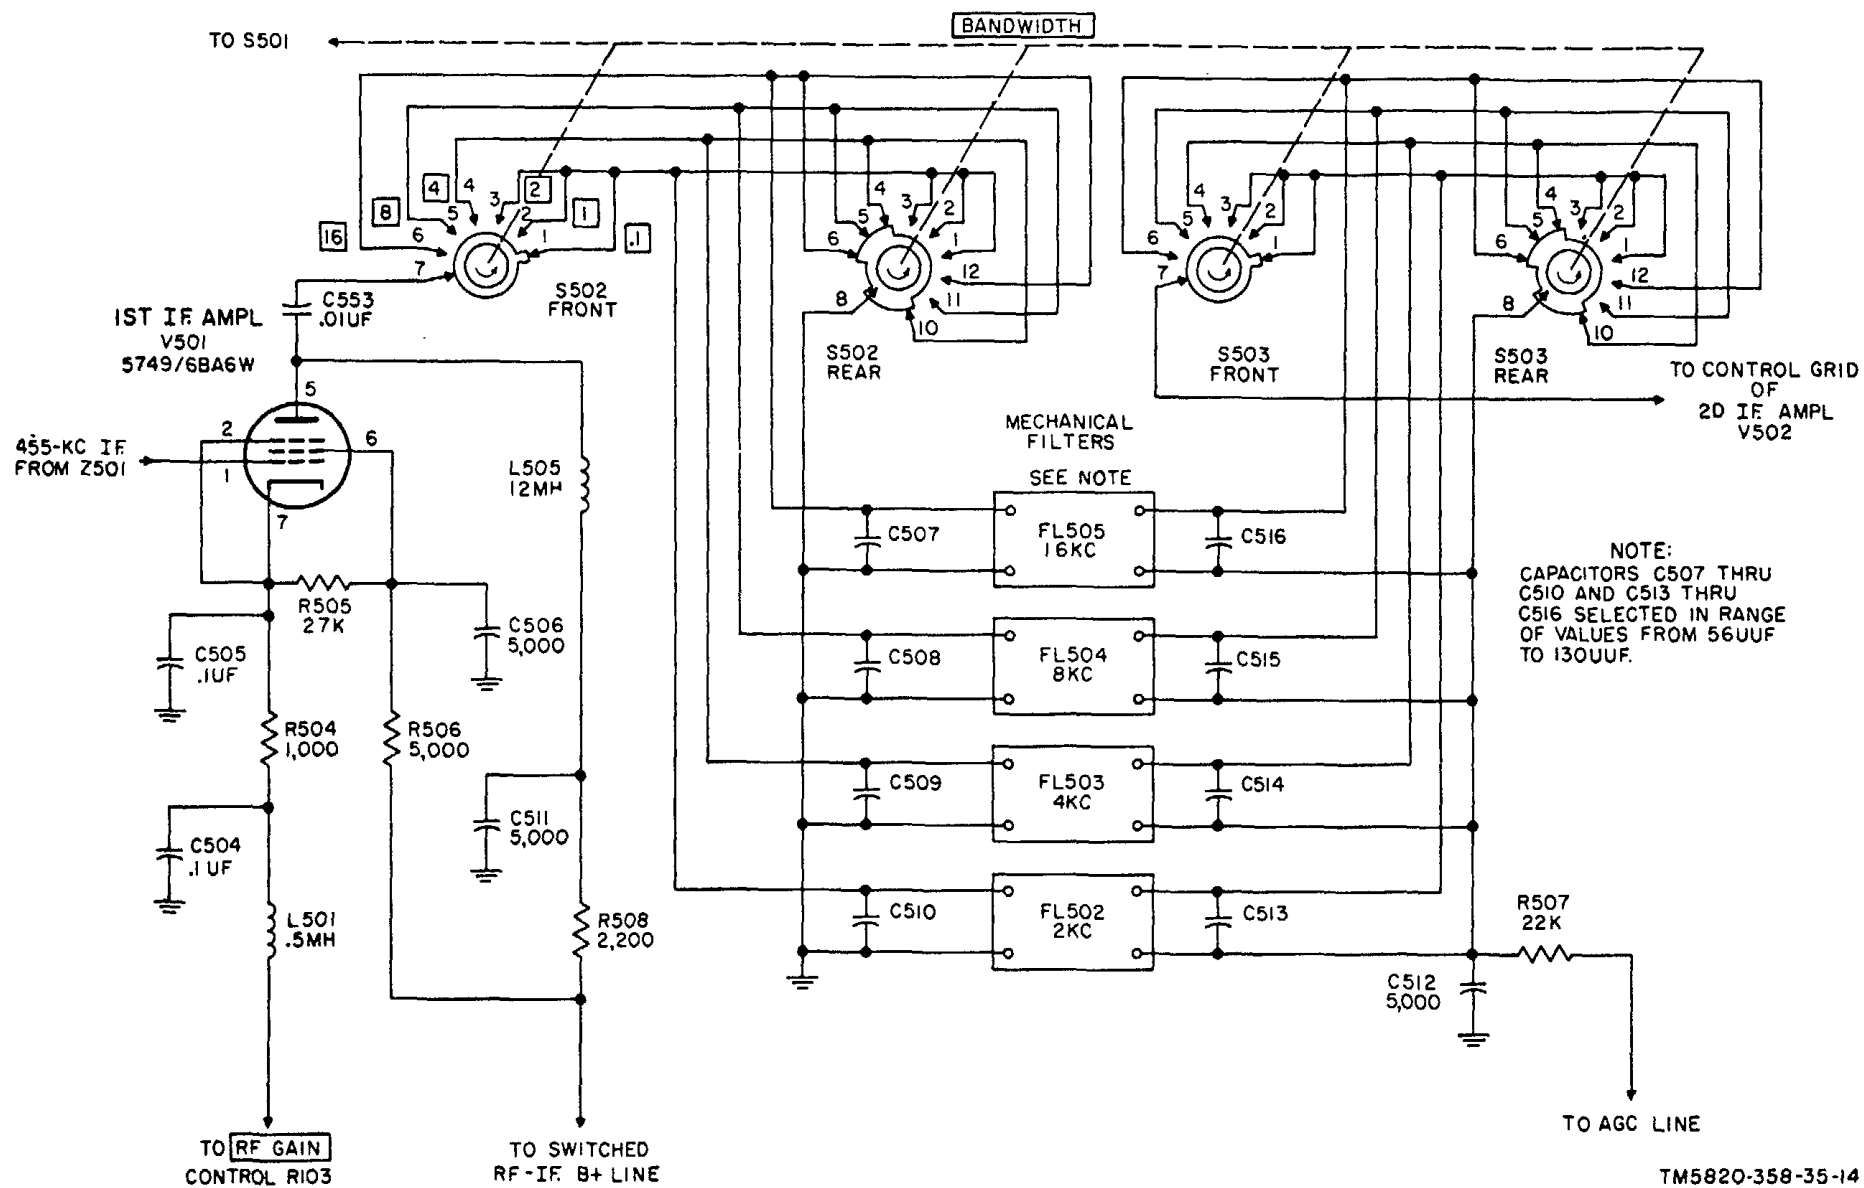

Figure 12. First if. amplifier V501, simplified schematic diagram.
15. First If. Amplifier V501 and Mechanical Filters (fig. 12)
a. The control grid of V502 is returned to the age line through S503 (front) and the selected mechanical if. filter (fig. 12). The control grid of V503 is returned to the age line through L507 of T501 and R516. The control grid of V504 is returned to ground through L511 (secondary of T502). The screen grid of V504 is fed from the switched rf-if. B+ line through the decoupling network consisting of R525 and C529. The B+ voltage for the plate circuits of V502, V503, and V504 is fed through the primary coils of T501, T502, and T503, respectively.